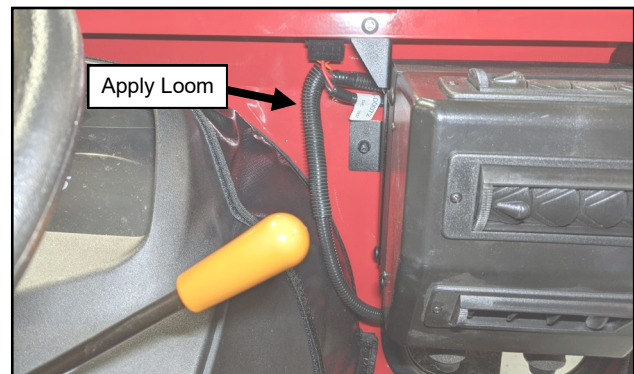

Fig. 17.4 (Apply 1/2" Wire Loom)
- 17.4 Apply the supplied 1/2" wire loom to the heater wires. See Figure 17.4.